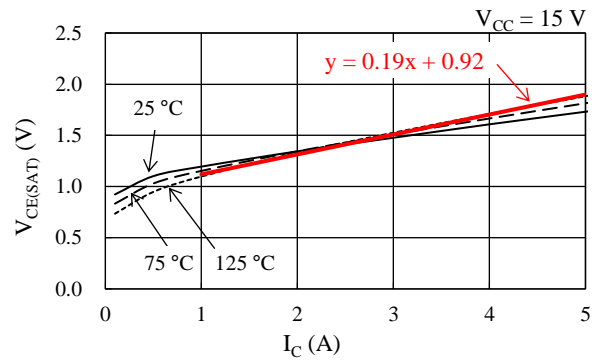

Figure 13-3. Linear Approximate Equation of $V_{CE(SAT)}$ vs. I_C
Steady-state loss in an IGBT can be computed by using the $V_{CE(SAT)}$ vs. I_C curves, listed in Section 14.3.1. As expressed by the curves in Figure 13-3, linear approximations at a range the I_C is actually used are obtained by: $V_{CE(SAT)} = \alpha \times I_C + \beta$. The values gained by the above calculation are then applied as parameters in Equation (5), below. Hence, the equation to obtain the IGBT steady-state loss, P_{ON} , is: